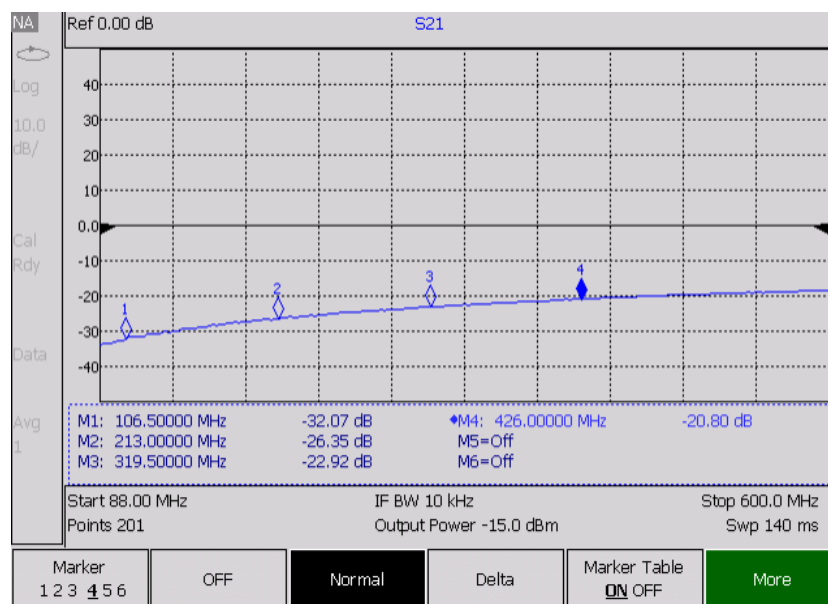
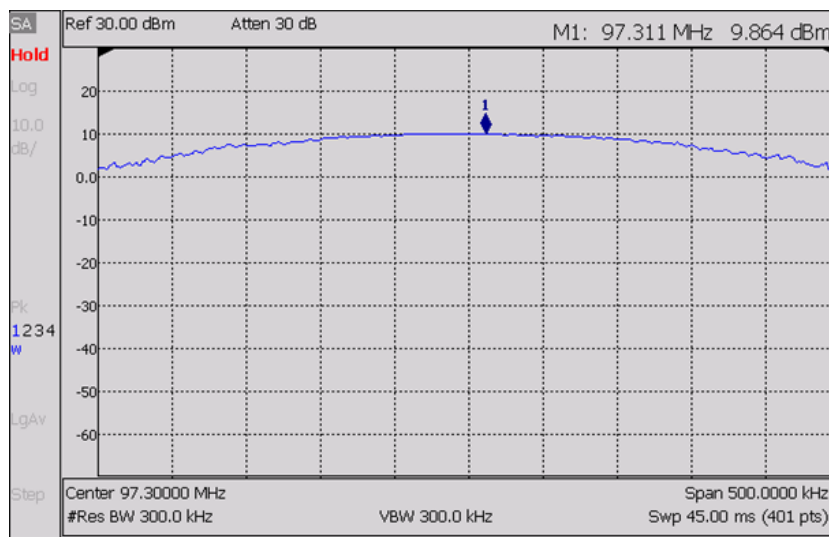

Figure 1 - Plot of coupler loss
Figure 2 - Forward power (9.864 dBm).
- An example plot of a typical coupler is shown in Figure 1, and the values obtained in this plot are tabulated in Table 1.
The antenna return loss is measured by powering the transmitter with the directional coupler in line with the antenna. The power is measured on both the forward and return ports of the coupler with a spectrum analyser on the in-use frequency. Figures 2 and 3 below show example spectrum analyser plots for these measurements.
In the example in Figure 1 and Figure 2 the return loss is the difference in levels measured between forward and return coupler ports, i.e. 9.864 dBm and -7.576 dBm = **17.4 dB** (rounded): the minimum required return loss is 14 dB.